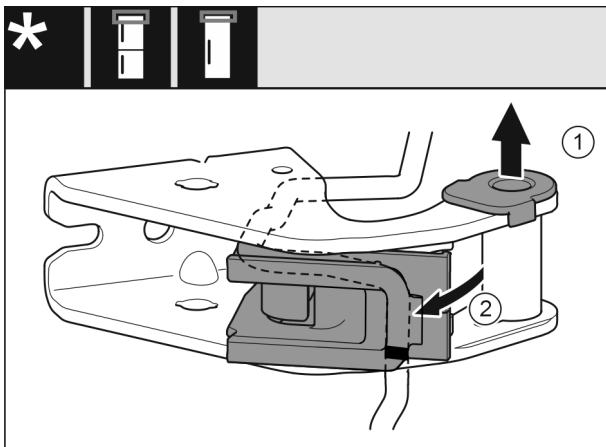

Fig. 28
- ▶ Pull the bearing bush Fig. 28 (1) out of the guide.
- ▶ Swivel the cable holder Fig. 28 (2) out.